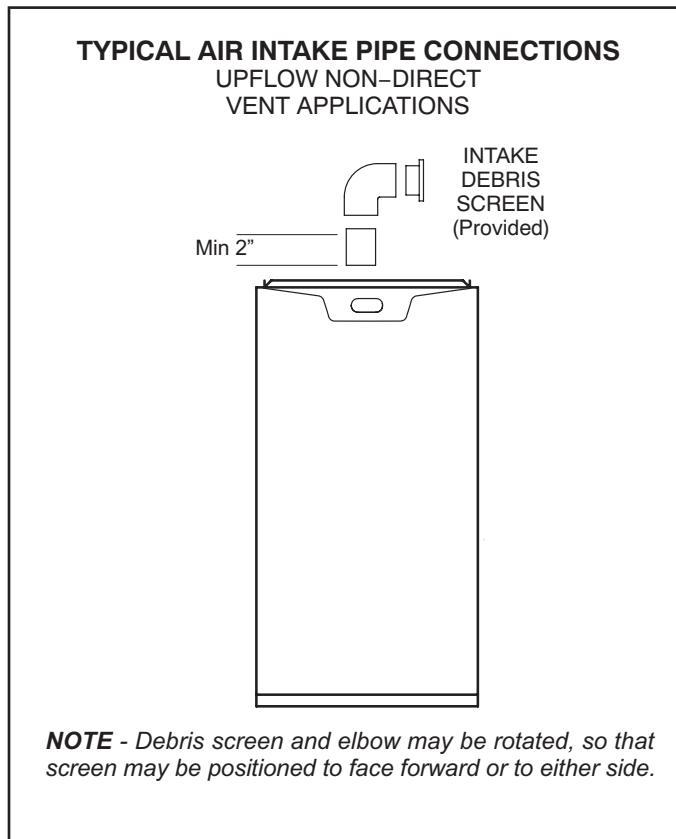
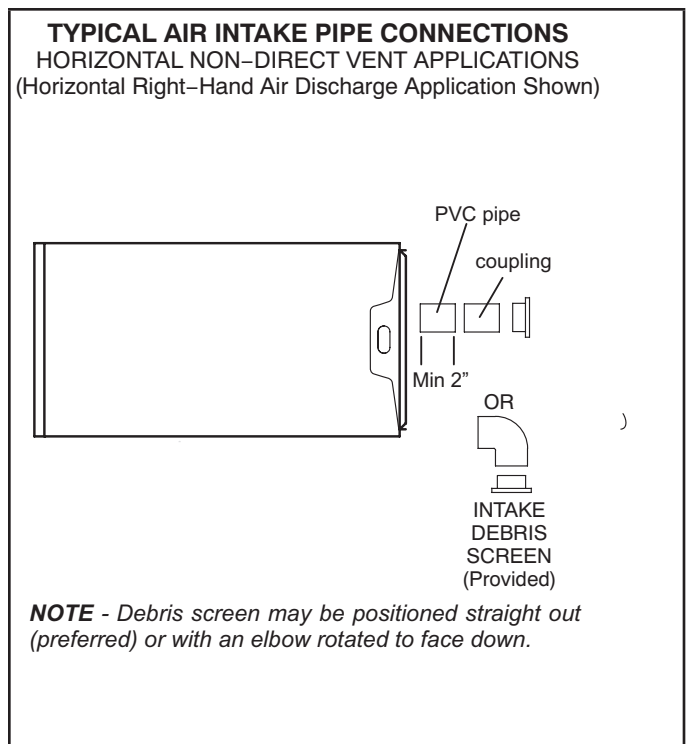

FIGURE 27
FIGURE 28
- 1 - Use field-provided materials and the factory-provided air intake screen to route the intake piping as shown in "FIGURE 27" or "FIGURE 28". Maintain a minimum clearance of 3" (76mm) around the air intake opening. The air intake opening (with the protective screen) should always be directed forward or to either side in the upflow position, and either straight out or downward in the horizontal position. **The air intake piping must not terminate too close to the flooring or a platform. Ensure that the intake air inlet will not be obstructed by loose insulation or other items that may clog the debris screen.**